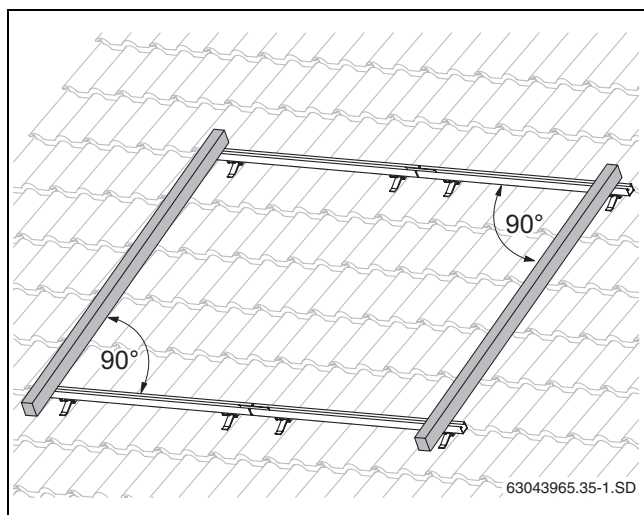

Fig. 31 Aligning the profile rails
- Align the upper and lower profile rails to the side flush with each other and level them (Fig. 31, use a spirit level).
Measure the diagonals or place a roof batten (Fig. 31, [1]), for example, at the ends of the profile rails. The angle between roof batten and profile rail must be 90°. Align the profile rails over the slotted holes.